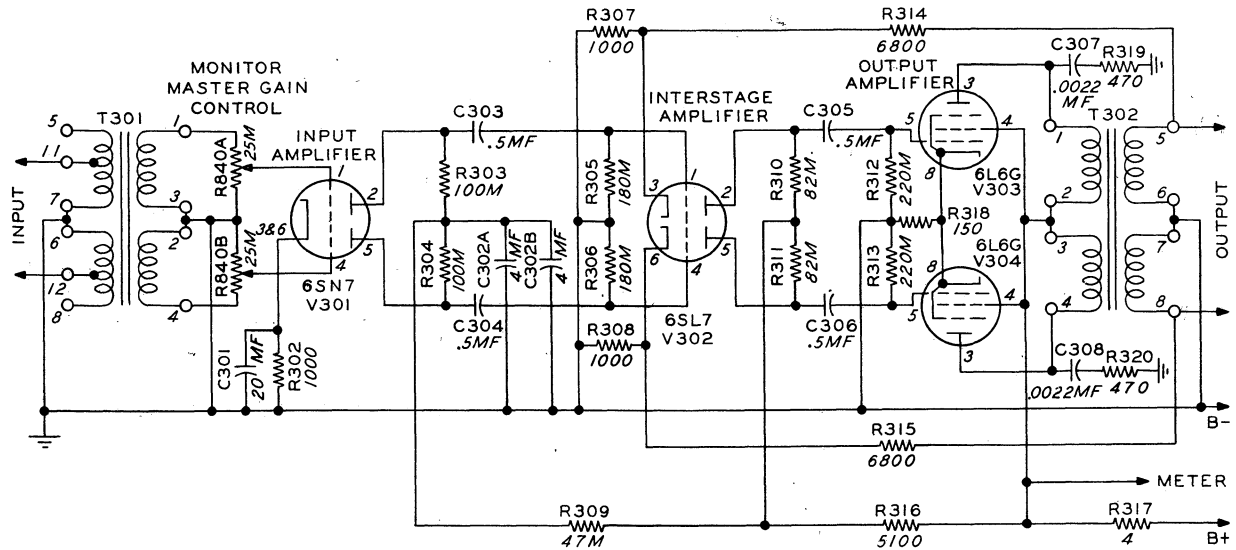

Figure 2-8 Monitor Amplifier Circuits
(9) MONITOR AMPLIFIER CIRCUITS. - The monitor circuit uses a line amplifier which will supply sufficient audio power to operate five speakers. Refer to figure 2-8. The type 6V-1 monitor amplifier is a three stage push pull amplifier. The input circuit is transformer coupled by T301 to a type 6SN7 tube V301 employed as a push pull voltage amplifier. An attenuator R840 located in the grid circuit of V301 serves as the monitor master gain control. Bias is obtained by means of the voltage drop across resistor, R302. The grid circuit of the interstage amplifier V302 is coupled by capacitors C303 and C304. The interstage amplifier V302 employs a dual triode type 6SL7 tube. Resistors R307 and R308 form the cathode circuit of V302. The plate of V302 is resistance coupled to the grid circuit of the